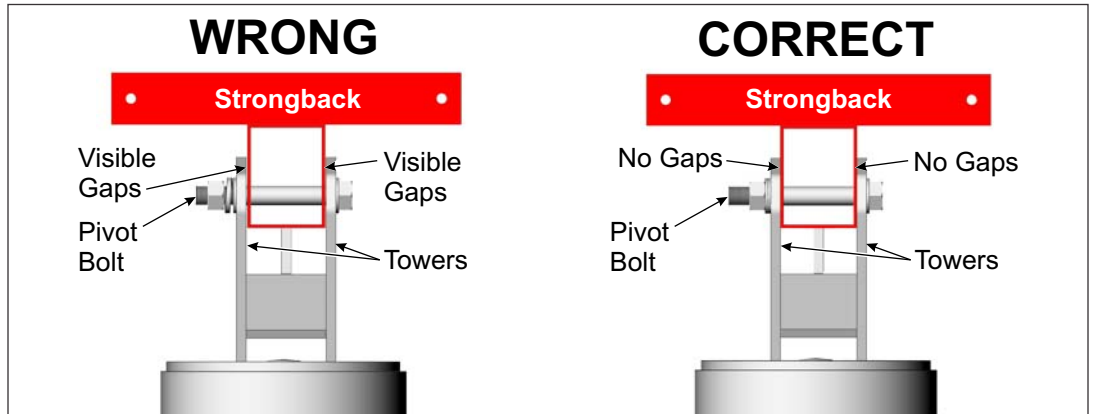

Figure 7-3: Tighten and Torque the Pivot Bolt
- C. Re-tighten the Pivot Bolt. After changing the tilt angle and tightening the Support Bar hardware, the Pivot Bolt must be re-tightened. The Pivot Bolt cannot be left loose - the Mounting Sleeve Vertical Towers must be firmly clamped to the sides of the Strongback, eliminating any gaps between the Vertical Towers and the Strongback. **Torque to 200-250 ft.-lbs.** (See Figure 7-3)